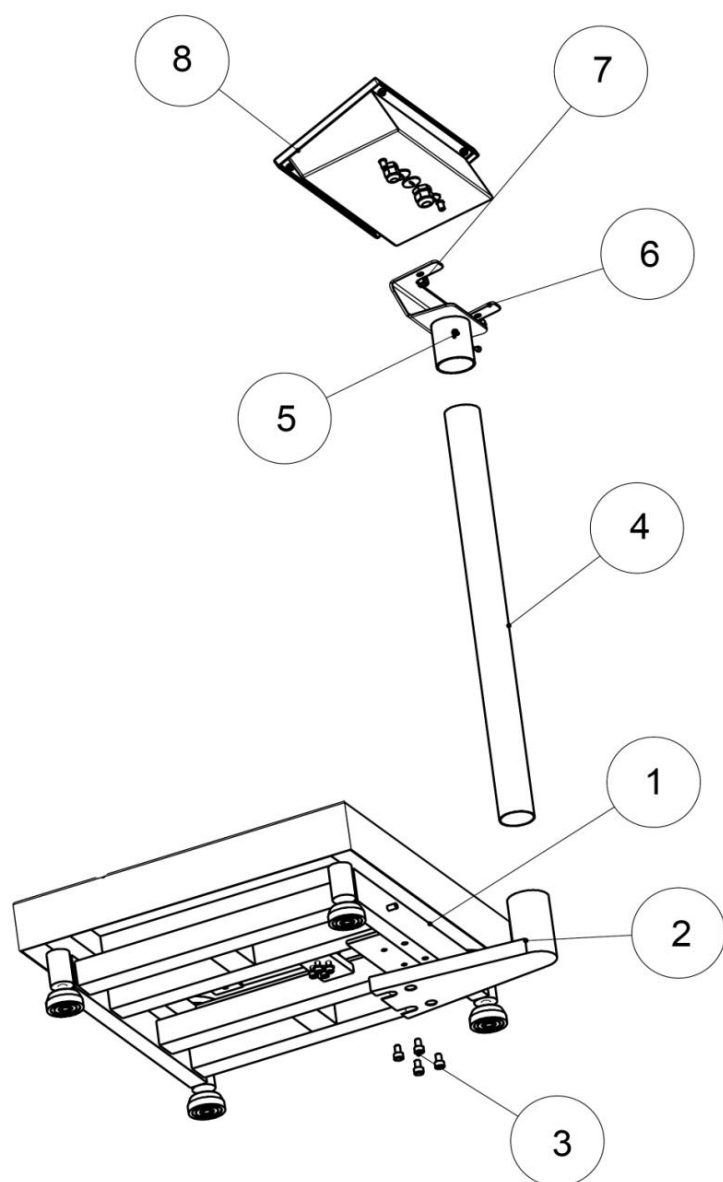

Fig.2
2.2 MONTAGE PBI+PBICL...+PBICLST+DFWLI (FIG.2)